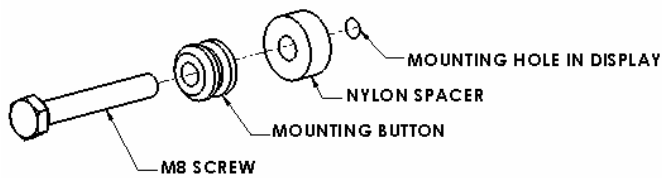
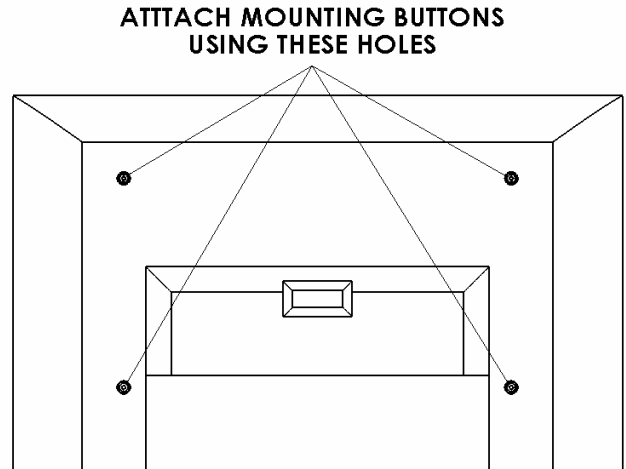

Figure 3
Figure 4
2. Attach mounting buttons to display using four M8 screws provided (see Figure 3 & Figure 4). Use longer screws and spacers if necessary.